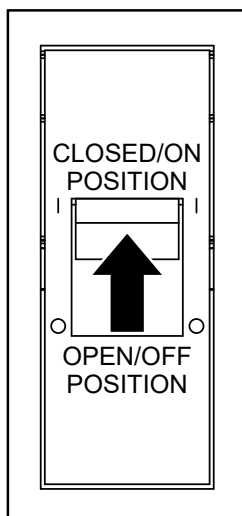

Figure 98. Main Circuit Breaker (Closed/ON)
2. Place the **main circuit breaker** in the **CLOSED (ON)** position. See Figure 98.
1. Place the **main circuit breaker** in the **CLOSED (ON)** position. See Figure 98.